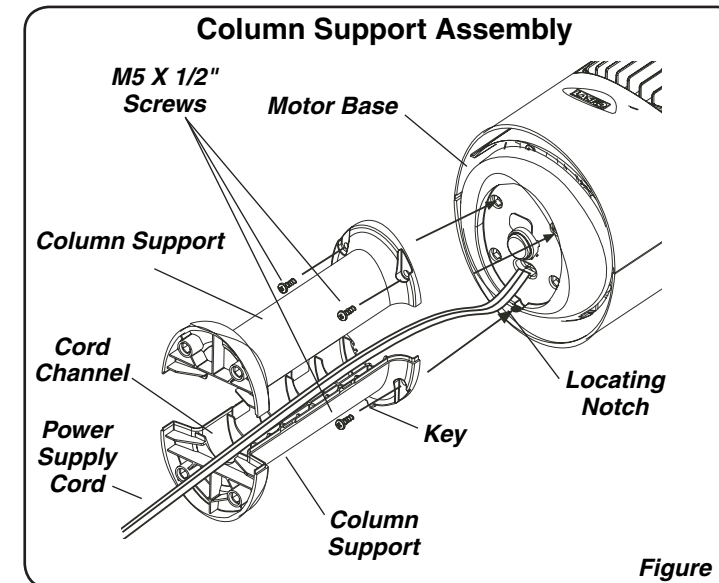

Figure 1
- Locate the **Power Supply Cord** at the bottom of the Fan. Place the **Power Supply Cord** in the **Cord Channels** of the **Column Supports**. Snap the **Column Supports** firmly together to form the **Column Support Assembly**. (Figure 1)
- Attach the **Column Support Assembly** to the **Motor Base** with (4) 1/2" Long **M5 Screws**. Make certain to align the **Key** on the **Support Column Assembly** with the **Locating Notch** on the **Motor Base**. (Figure 1)